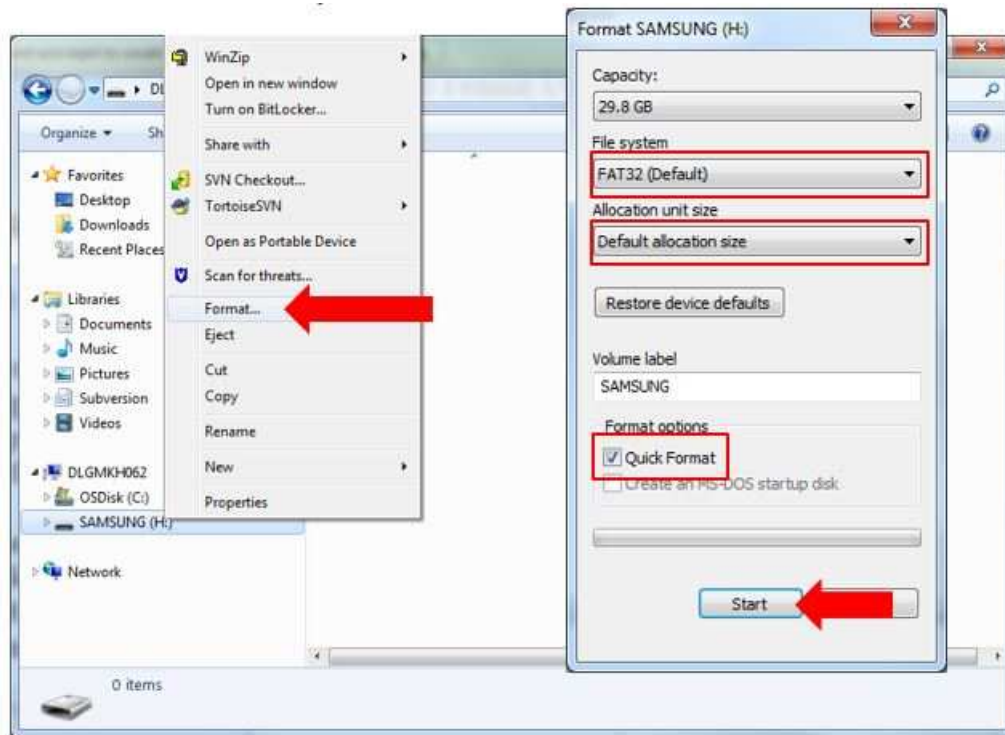

Fig. 1
2. Perform the following steps to format the USB flash drive (Fig. 1) .